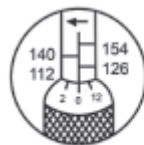

FIG1 112Nm
3. Lock handle securely by turning lock nut clockwise, and now wrench is set at 118Nm wich is ready to use. See Figure 1 and 2